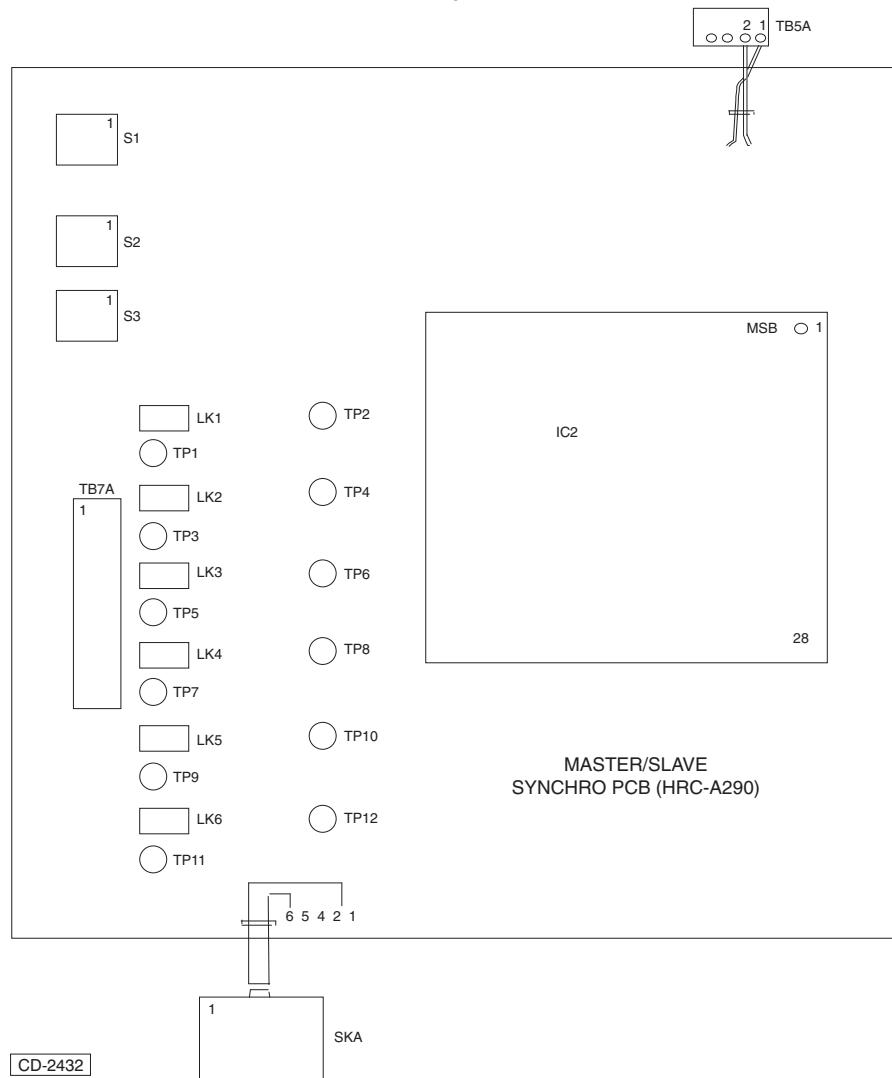

Figure 5a – Master/Slave Synchro PCB: Link Locations
- (1) Fit the required converter chip, see Table 5.
- (2) Make Links 1, 2, 3, 4, 5 and 6. Refer to Figure 5a, below, for link positions.